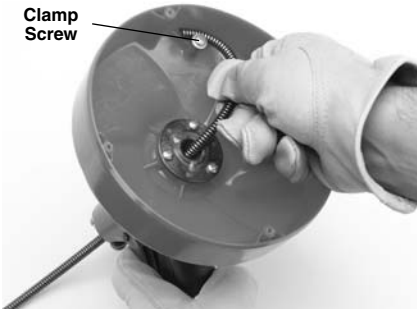

Figure 9 – Installing Cable End Into Holder
4. Push end of cable into holder and under clamp screw and washer. Tighten clamp screw (see Figure 9).